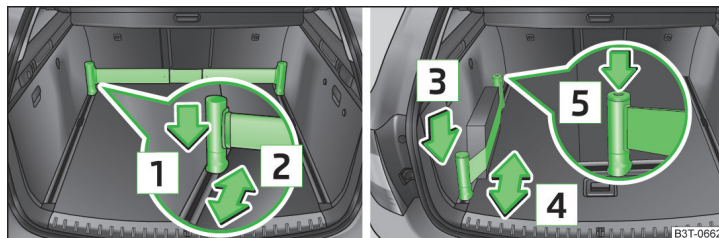

Fig. 116 Telescopic pole and tensioning strap
Press the top part of the holder in the direction of the arrow **1** » Fig. 116 and simultaneously push in the desired position in the direction of the arrow **2**.
- Press the holder in the direction of the arrow **3** » Fig. 116 and simultaneously push in the desired position in the direction of the arrow **4**.
- The tensioning strap can also be fully reeled up by pressing the button **5** » Fig. 116.